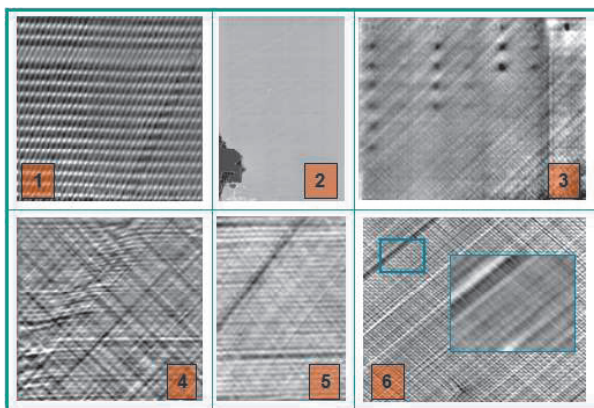

Fig. 4 Defect detection by EC in CFRP
As CFRP has electrical conductivity the material can be inspected using eddy current (EC) technology [4]. Fig. 4 shows images of the eddy current impedance obtained by an automated scan with an EC-transducer. Frequency range of the equipment is between 10 Hz and 10 MHz. A multi-frequency approach can be performed by time-multiplexing and different typical structural defects can be detected optimal at different frequencies.